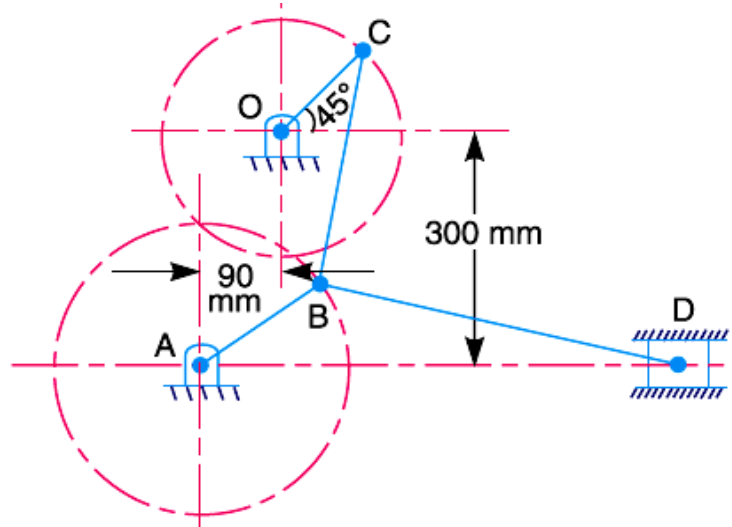

Fig: 6
- b) In the toggle mechanism, as shown in the fig: 6, D is constrained to move on a horizontal path. The dimensions of various links are: AB = 200 mm; BC = 300 mm; OC = 150 mm; and BD = 450 mm. [10M]